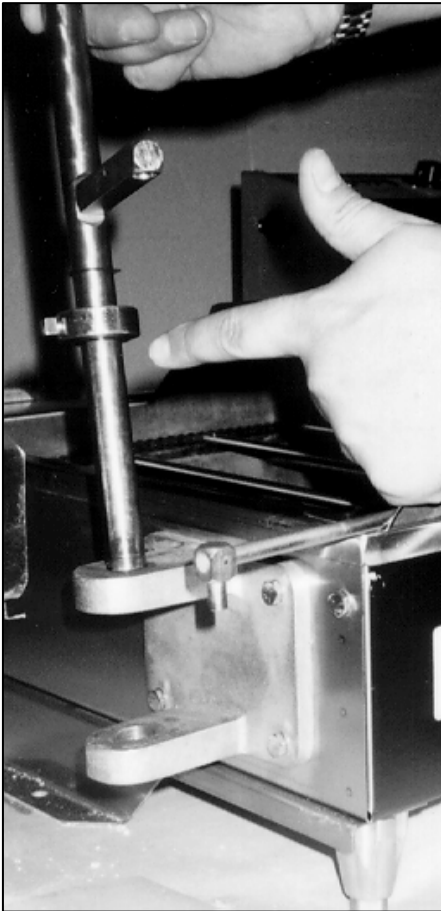

Figure 1-5. Inserting the Swing Column.
7. Insert the swing column into the swing column mounting bracket. Make sure the plastic spacer washer is on the swing column between the lower set collar and the swing column mounting bracket. See Figure 1-5.